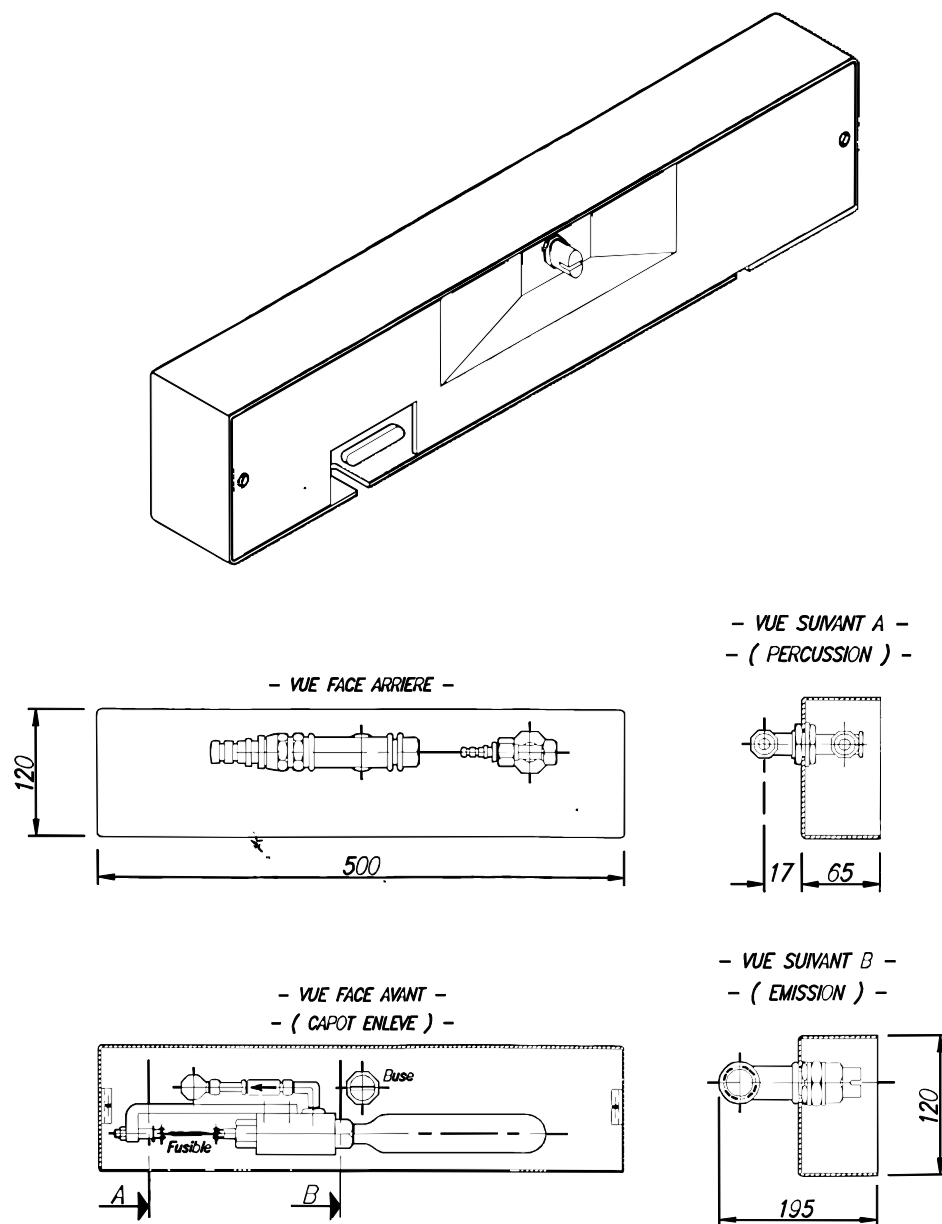

Figure 8 : bandeau MADEX II – B 500
- Bandeau MADEX II – B500 (Cf. Figure 8, page 21).